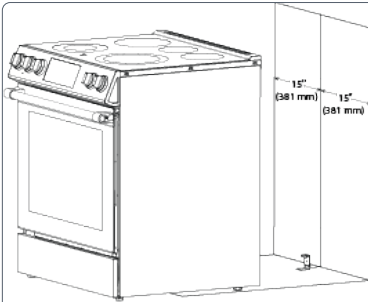

Figure 1
2. Fix the part2 of the bracket to the floor with 4 screws (5) in accordance with the dimensions and direction indicated in Figure 1.
3. Mount the bracket to the wall as mentioned in Figure 1. (Try to center bracket while mounting.) Distance (B) from the bottom of the bracket to the floor should be equal to the formula in Figure 1 (Formula is  $B=A-2,3"$ ).